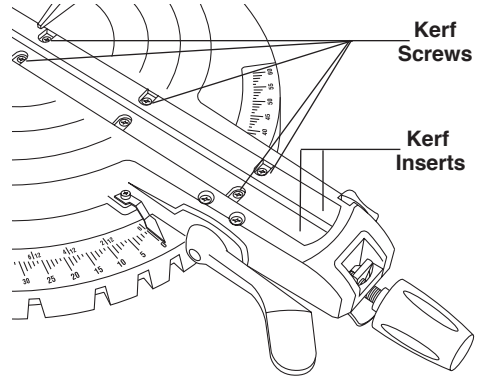

Figure 12. Kerf Insert
2. Loosen the six (6) kerf screws using the multi purpose tool or multi purpose "L" wrench (Figure 12).